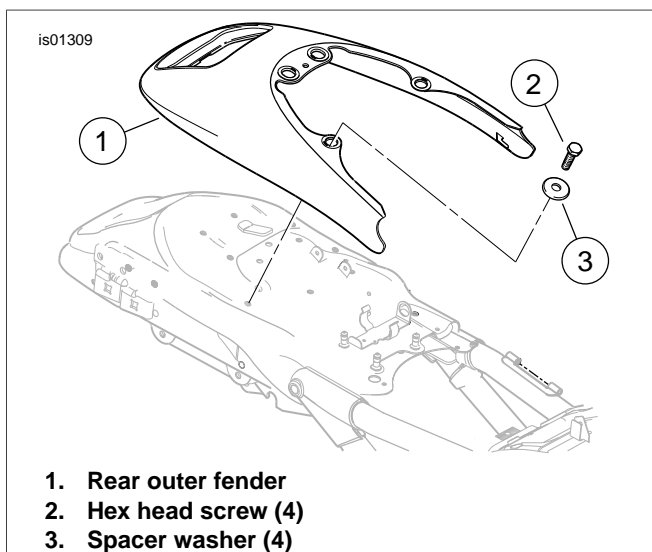

Figure 7. Fender Mounting Fasteners (2006-2007 VRSCR)
5. See Figure 7. Remove the four hex head screws (2) and spacer washers (3) that retain the rear outer fender (1). Slide the fender back. Lift to remove.